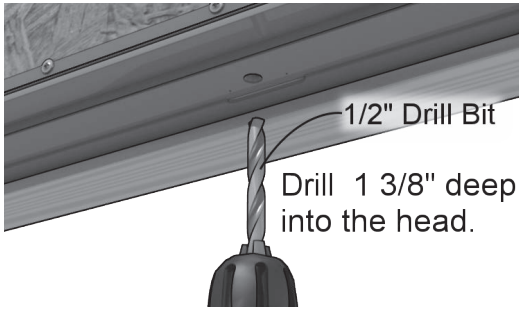

Figure 14
**1n) (Required- French Outswing Only)** This step is only required if there is less than a 1/2" gap between the door frame and the rough opening header. You will need to drill into the rough opening header where the astragal lock bolt goes through. While the head plate is off, use a 1/2" drill bit to drill 1 3/8" deep into the head. (figure 14) Then, replace the head plate and fasten it with #8 x 3" screws (see previous step).